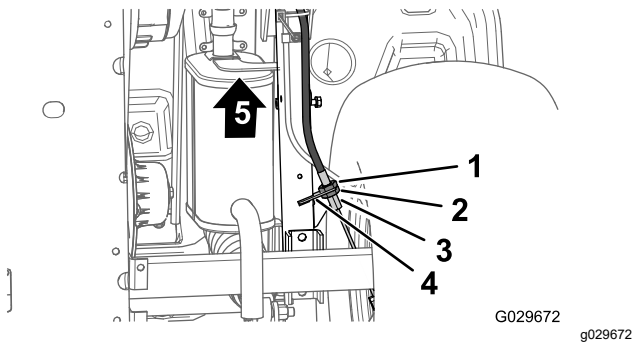

Figure 63
3. At the bottom of the machine, loosen the rear jam nut for the threaded adjuster of the parking-brake cable 4 turns (Figure 63).
- A. Loosen the rear jam nut (Figure 63) for the threaded adjuster of the parking-brake cable 1 turn.
- B. Tighten the forward jam nut (Figure 63).
4. Tighten the forward jam nut (Figure 63).
- A. Loosen the forward jam nut (Figure 63) for the threaded adjuster of the parking-brake cable 1 turn.
- B. Tighten the rear jam nut (Figure 63).